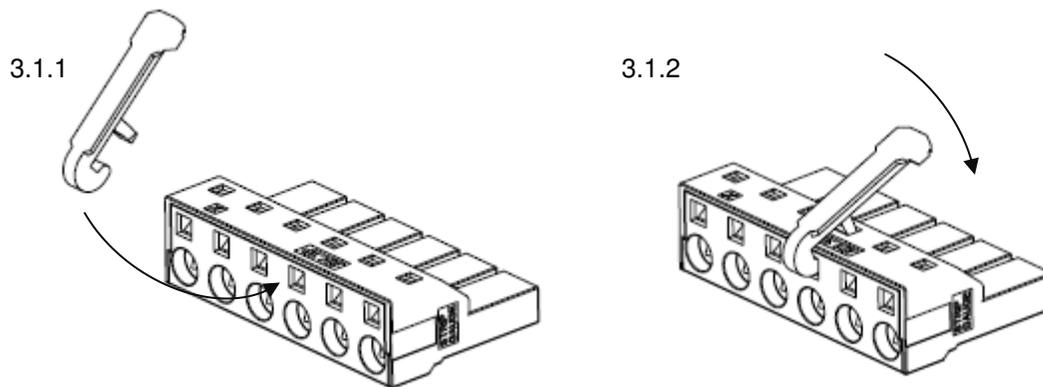

Fig. 1
3.1.2 Push the lever of the spring opener (2260828-1) with thumb at illustrated direction in Fig. 1 until the rib on the opener enters the hole firmly.